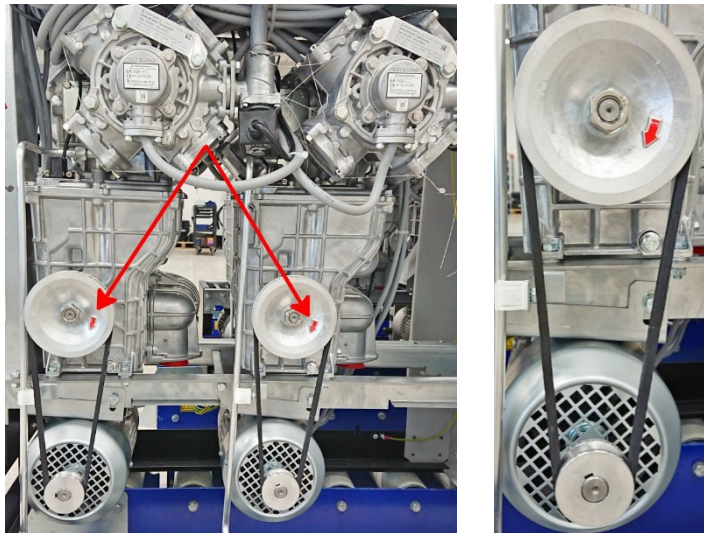

Figure 75 – Check of the pump motor direction of rotation (arrow)
**NOTICE** When the electric motor is connected, check the correct direction of rotation! The correct direction of rotation is indicated by the arrow marked on the pump pulley, see Figure 75.